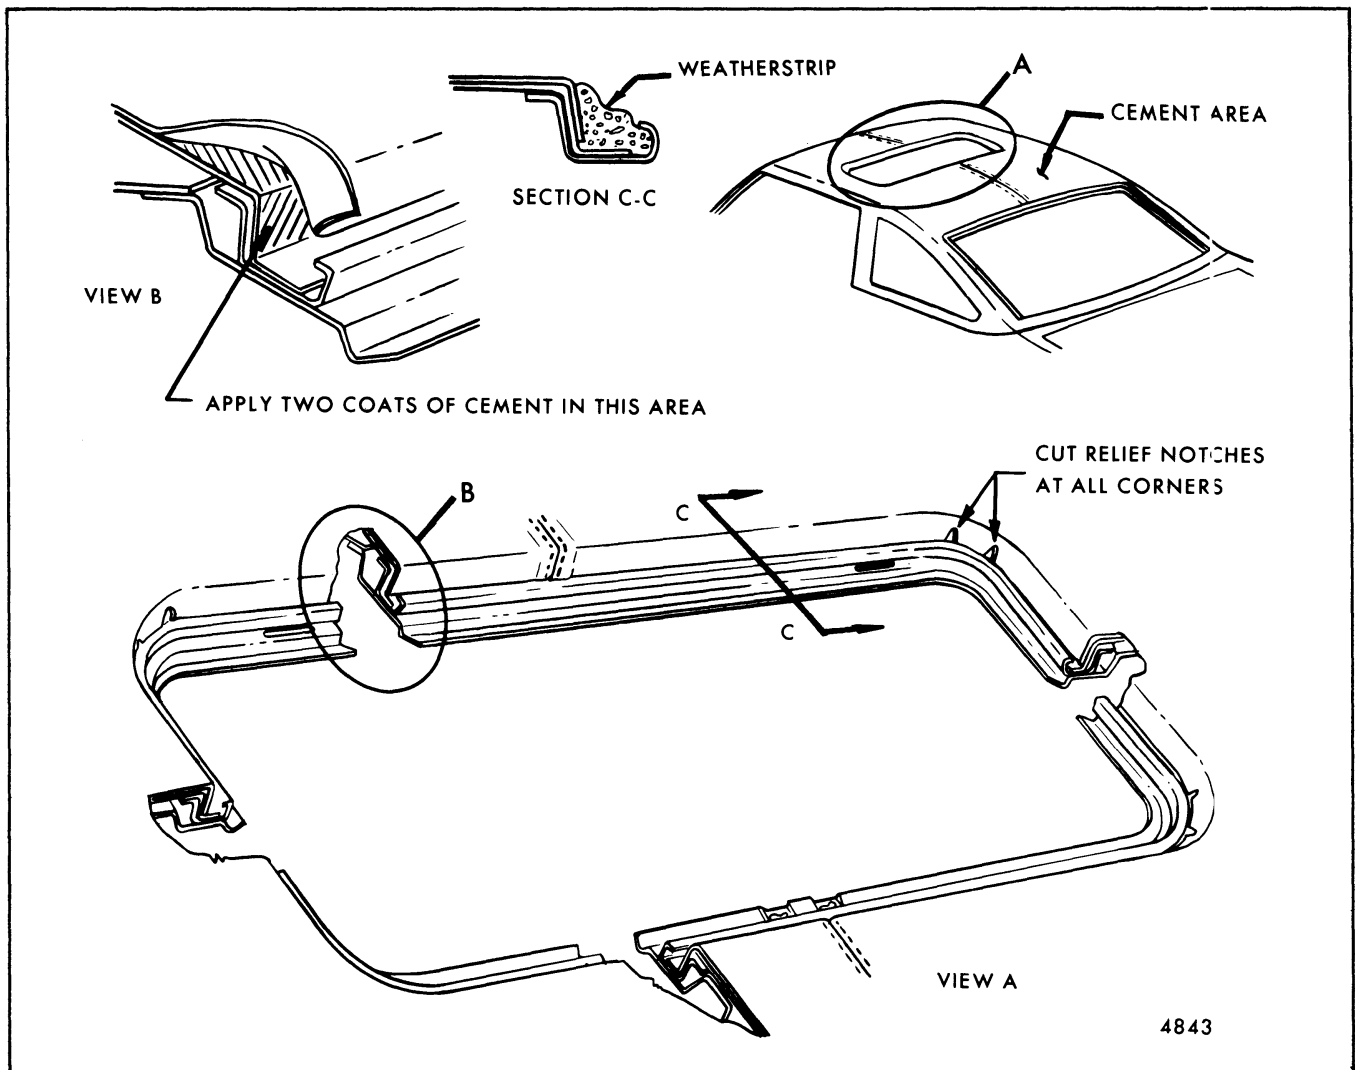

Fig. 8-20-Fabric Roof Cover Installation - Vista Vent Option
22. On the sunroof or vista vent option, trim and cement cover in the roof opening as required (Figs. 8-20 and 8-21).